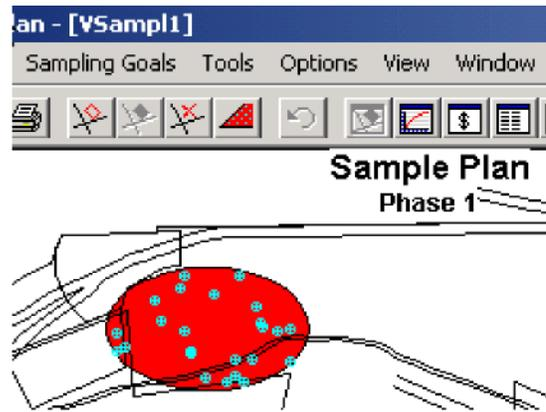
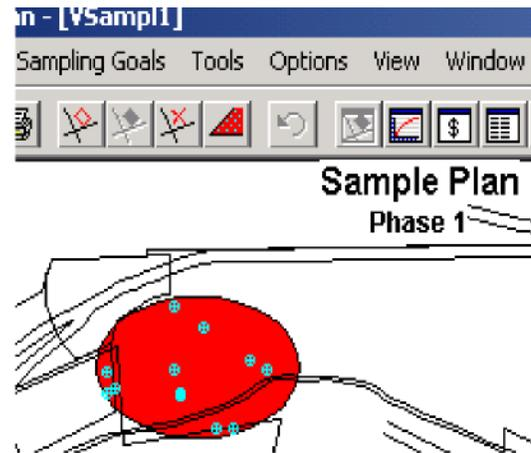

Figure 2.18. Example Sample Area with Sampling Locations
Figure 2.19. Example Study Area after Sampling
4. Choose the Main Menu; select **Sampling Goals > Compare Average to Fixed Threshold > Data not required to be normally distributed > Ordinary sampling of symmetric distribution.** Click the Apply button to place samples in the Sample Area. You should now have a Sample Area with 24 sampling locations similar to that shown in Figure 2.18.
7. Finally, to remove the sampling locations listed in *Remove.txt* from the Sample Area, choose Main Menu option **Map > Sample Points > Remove**. Select the file *Remove.txt* and click the **Open** button. You will see in Figure 2.19 there now are only 16 sample points instead of the original 24 shown in Figure 2.18.